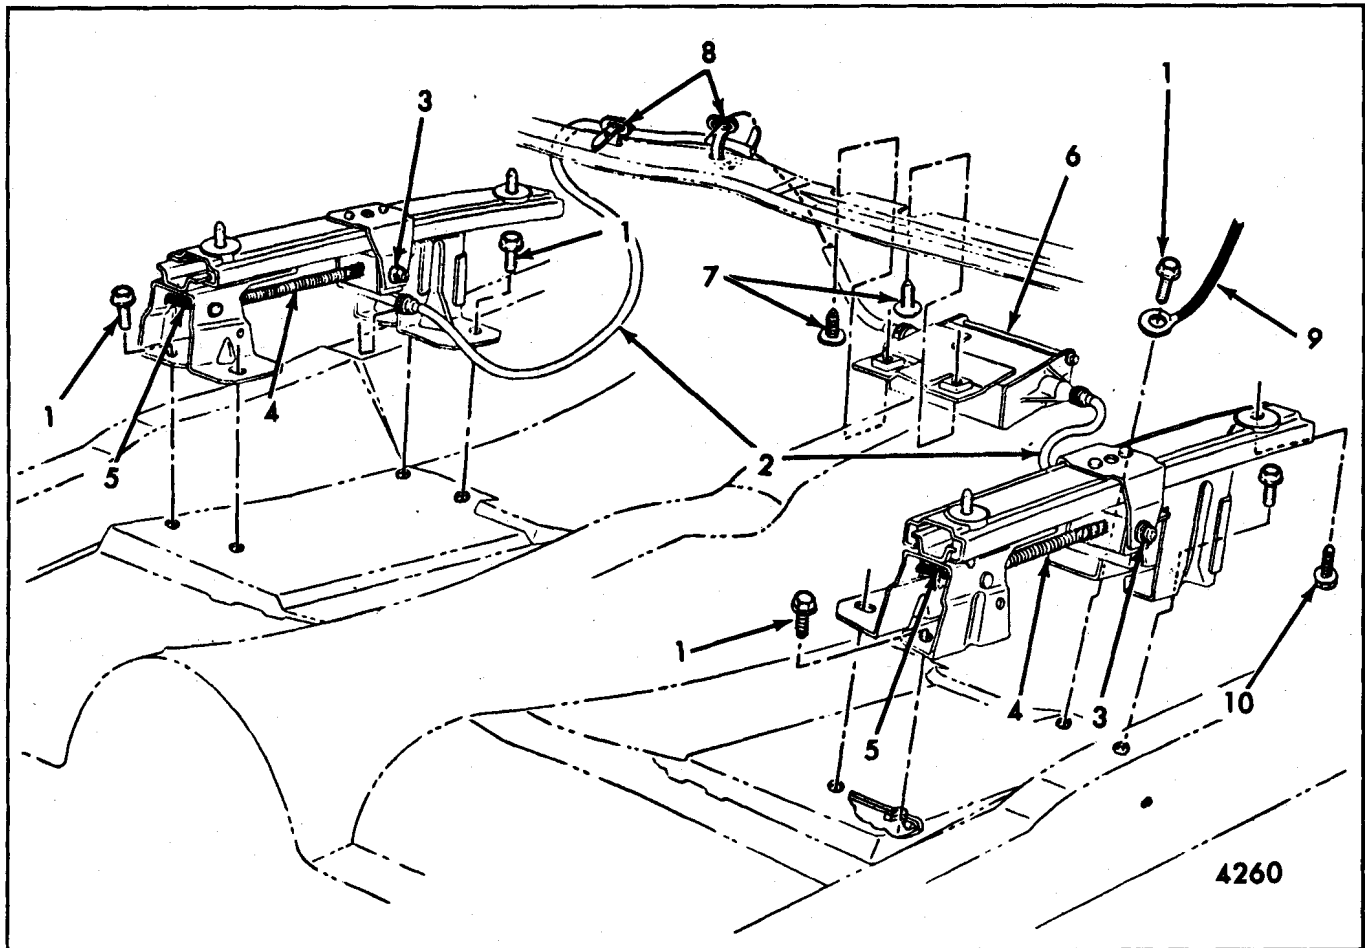

Fig. 14-8-Front Seat Adjusters - Power Operated Horizontal - Oldsmobile and Cadillac
4. Remove seat adjuster-to-floor pan rear attaching bolts (Figs. 14-8 through 14-14).
Make sure ground wire is securely attached under seat adjuster-to-floor pan rear attaching bolt. Check for proper operation of seat adjusters to limits of travel. On two-door styles equipped with electric seat back locks, check operation of both seat back locks (see Figs. 14-8 through 14-14).
2. Disconnect both power drive cables from motor (Fig. 14-8).
4. Remove screws that secure actuator motor support bracket to seat bottom frame and remove actuator motor with attached support bracket from seat assembly (Figs. 14-8 and 14-9).
gearnut to upper slide portion of seat adjusters (Figs. 14-8 and 14-9).